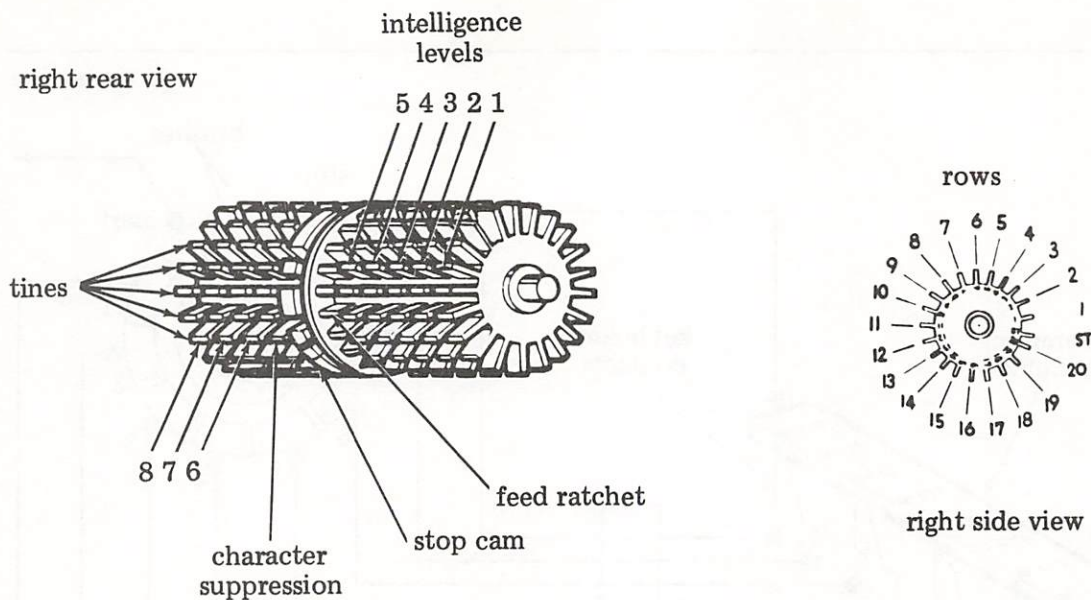

Figure 12 - Answer-Back Drum
4.06 The answer-back mechanism illustrated in Figures 12 through 15 automatically transmits a predetermined sequence of characters for identification purposes.
4.08 The answer-back drum illustrated in Figure 12 has 11 levels as follows: